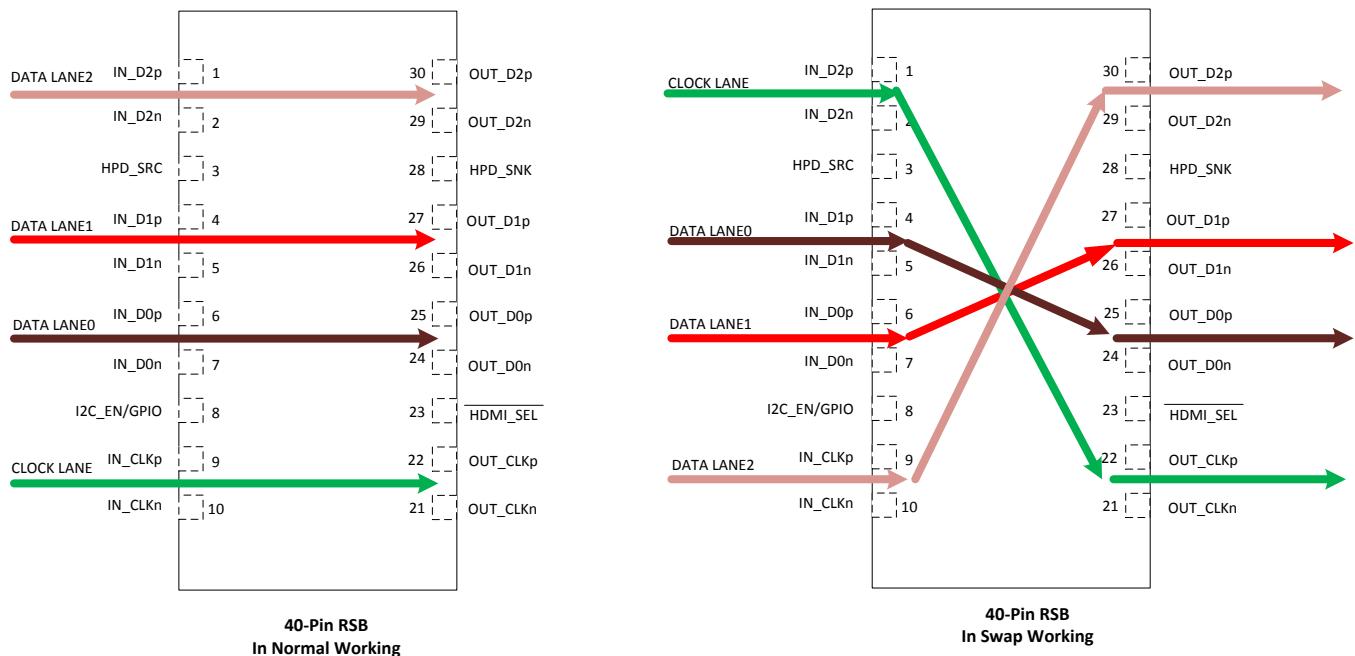

Figure 23. SNx5DP149 Swap Function for 40 Pins
(1) The output lanes never change. Only the input lanes change. See and Figure 23.